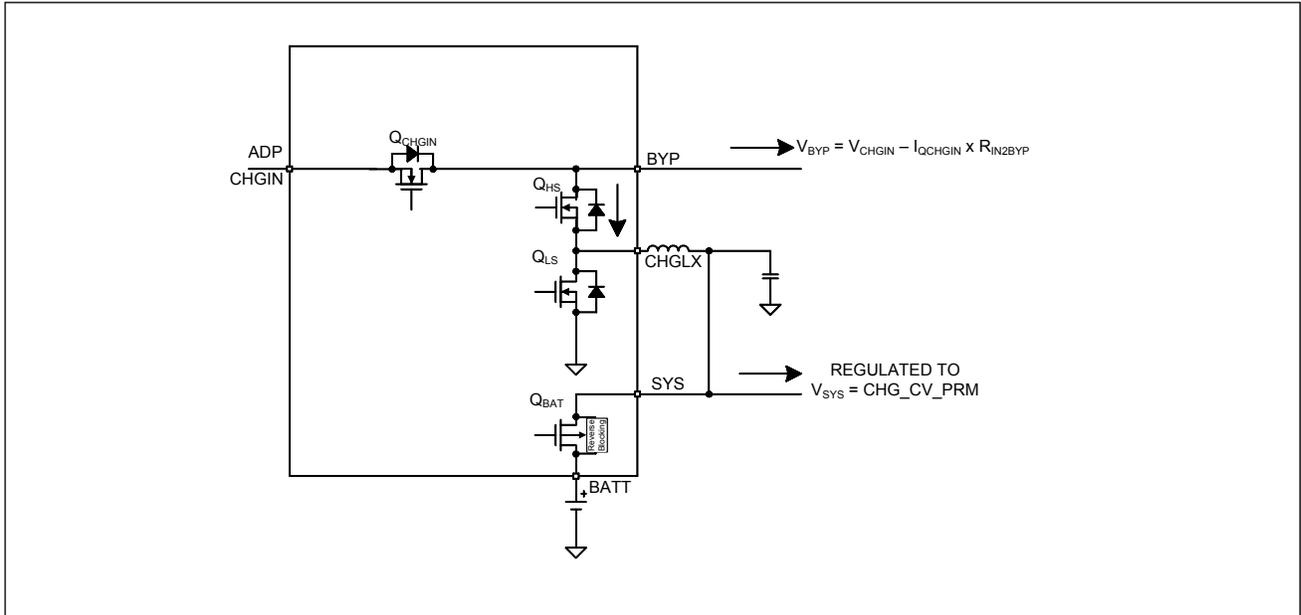

Figure 8. No Charge-Buck
- 5. NO CHARGE-BUCK, MODE = 0x0C: Adapter is detected within the input voltage operating range ($Q_{CHGIN} = \text{on}$). Battery is disconnected ($Q_{BAT} = \text{off}$) and charger is operating in buck mode powering SYS node, see Figure 8.